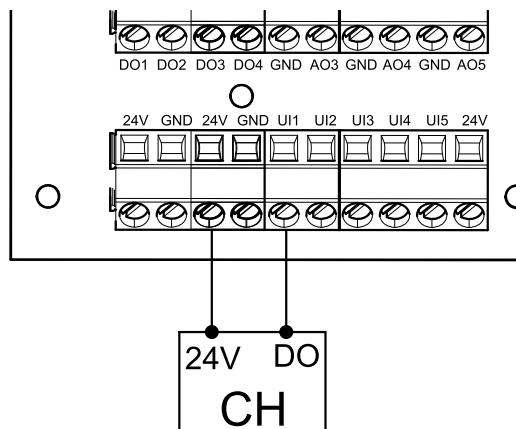

Fig. 18 Connection of the cooker hood
- Connect control signal wires from the cooker hood to any free universal input and 24 V on the external connection board (figure 18). For more information about connection board see 8.2 *External connections (Connection board)*, page 49.